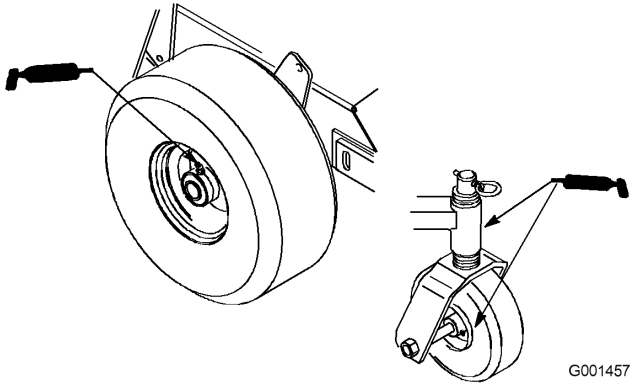

Figure 17
1. Lubricate the front wheel bearings and front spindles (Figure 17).
2. Lubricate the drive wheel bearings (Figure 17).